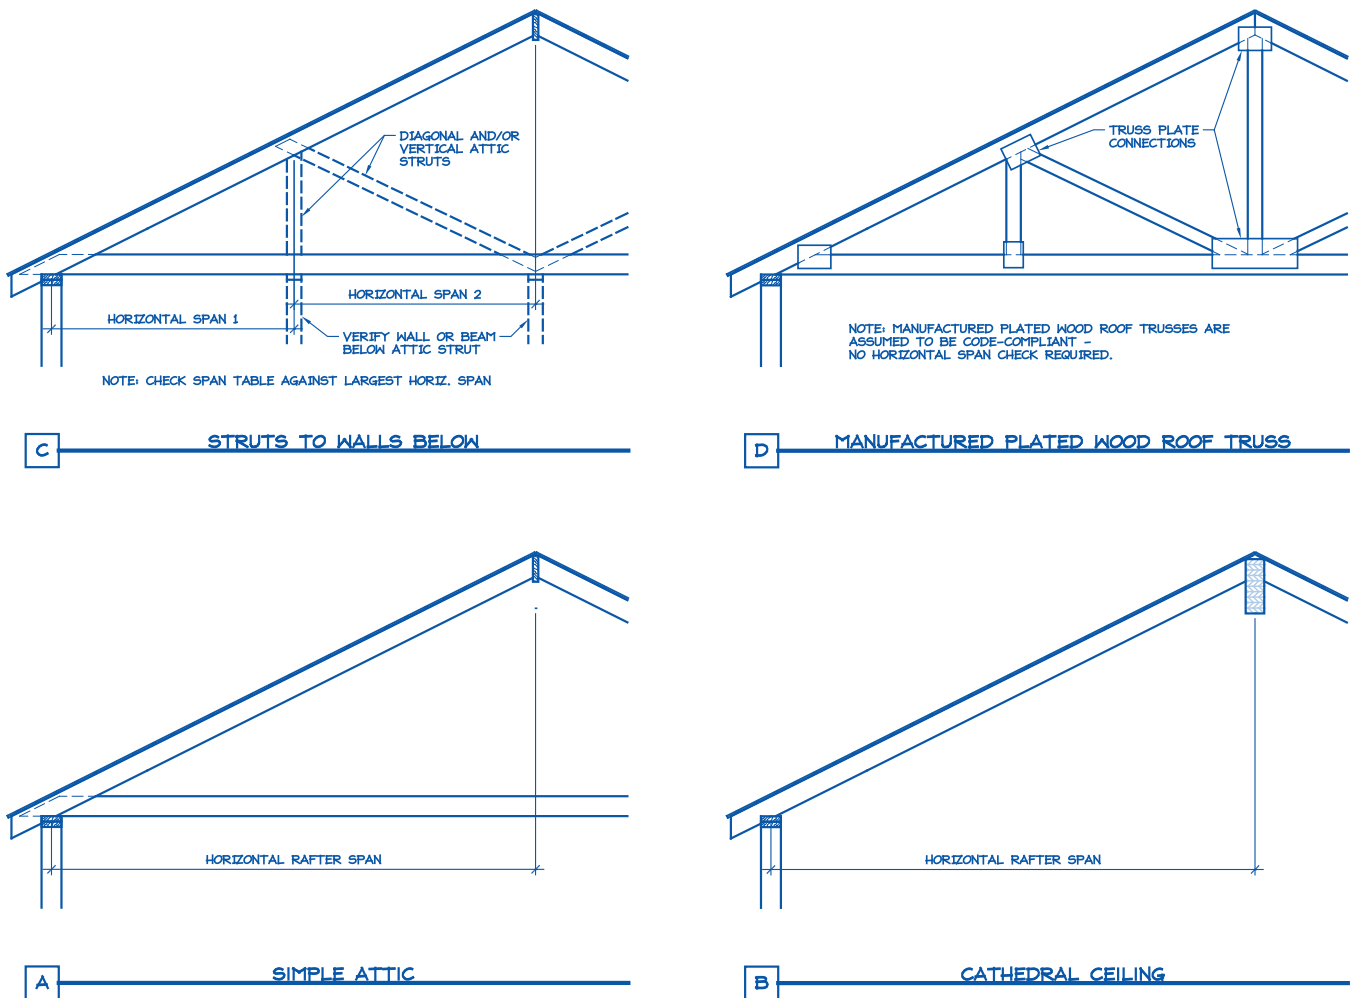

Figure 4. Definition of Rafter Horizontal Span.
- 5) Longest measured rafter horizontal span (see Figure 4): _____'-_____ " (ft-in)
1. See Figure 4 for definition of roof rafter maximum horizontal span.